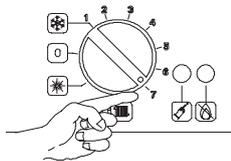

Figure 15.6
- Turn the boiler ON positioning the function selector B in the position shown in figure 15.6 and ensure that the room thermostat is set to “heat demand”.